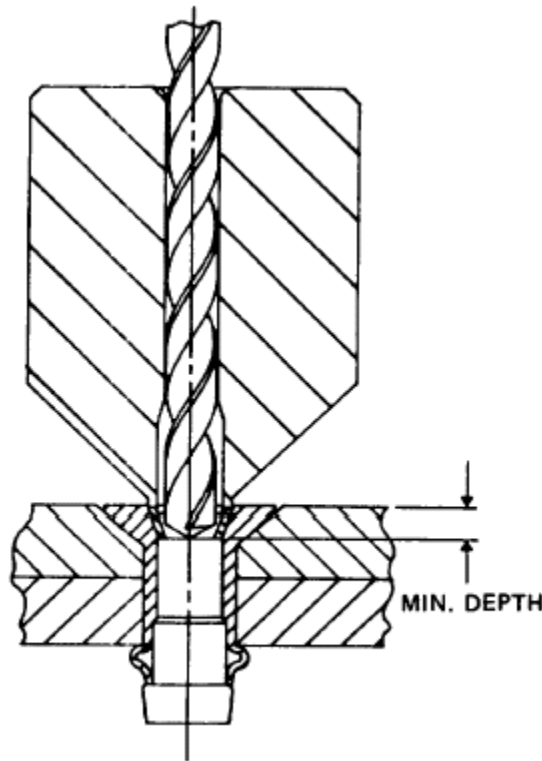

Figure 4-53. Firmly seating rivet in place.
5. Push against work with just enough force to firmly seat rivet and prevent part separation (Fig. 4-53).